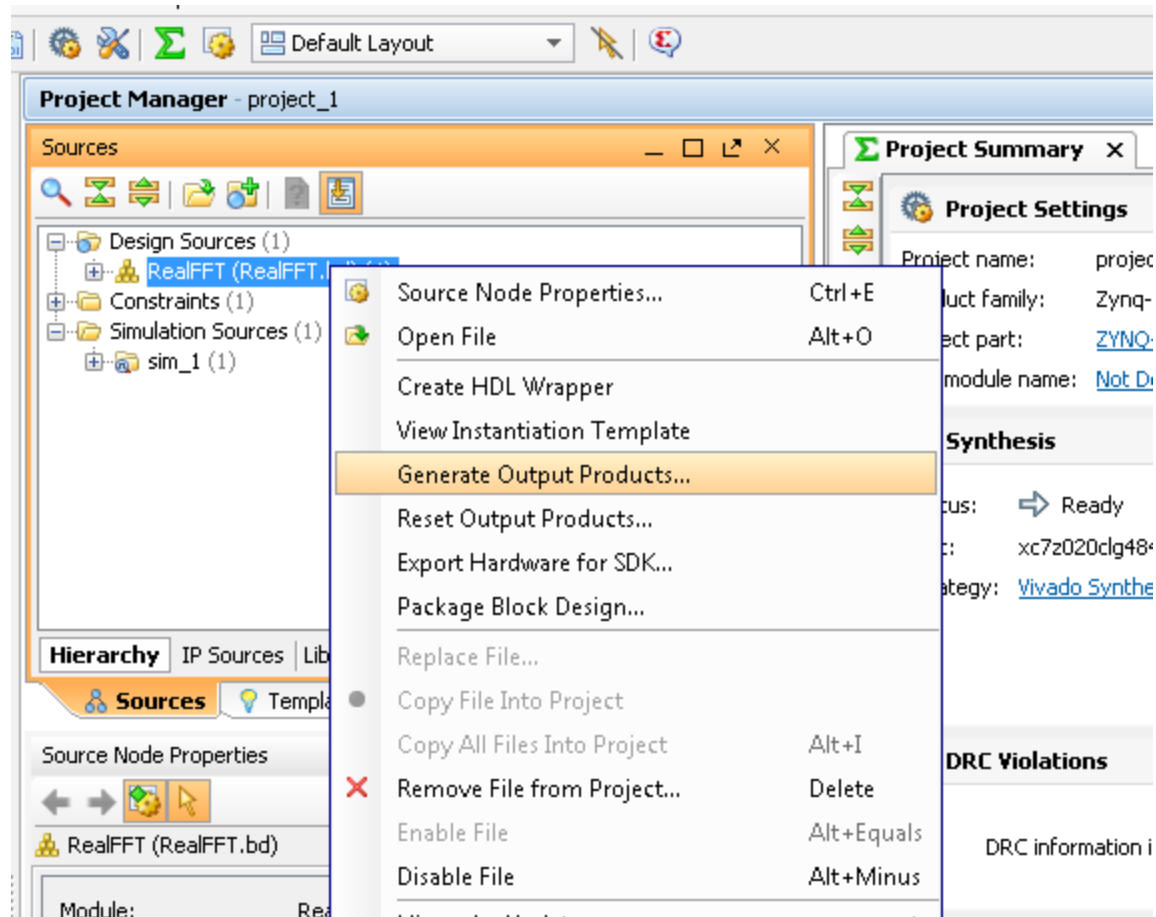

Figure 209: Generating Output Products
- In the **Sources** tab of Project Manager pane (Figure 209), right-click **RealFFT.bd** and select **Generate Output Products**.